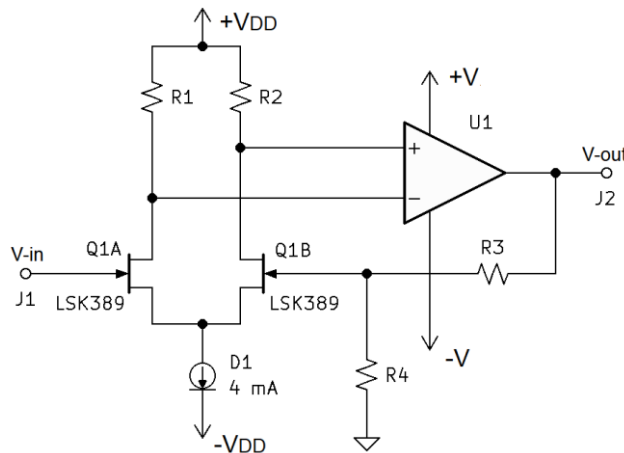

Figure 7
2. Discrete transistor amplifiers. See the circuitry in Figure 2, above, or in Figure 7, below. In Figure 7, the constant current source shared by the differential input FETs (LSK389) forces a total of 4 mA through the two FETs to keep them both in their linear operating range. This current is steered back and forth between the two FETs depending on the input voltage at J1 and the equal magnitude but opposite phase [angle] voltage the fed back from the output.